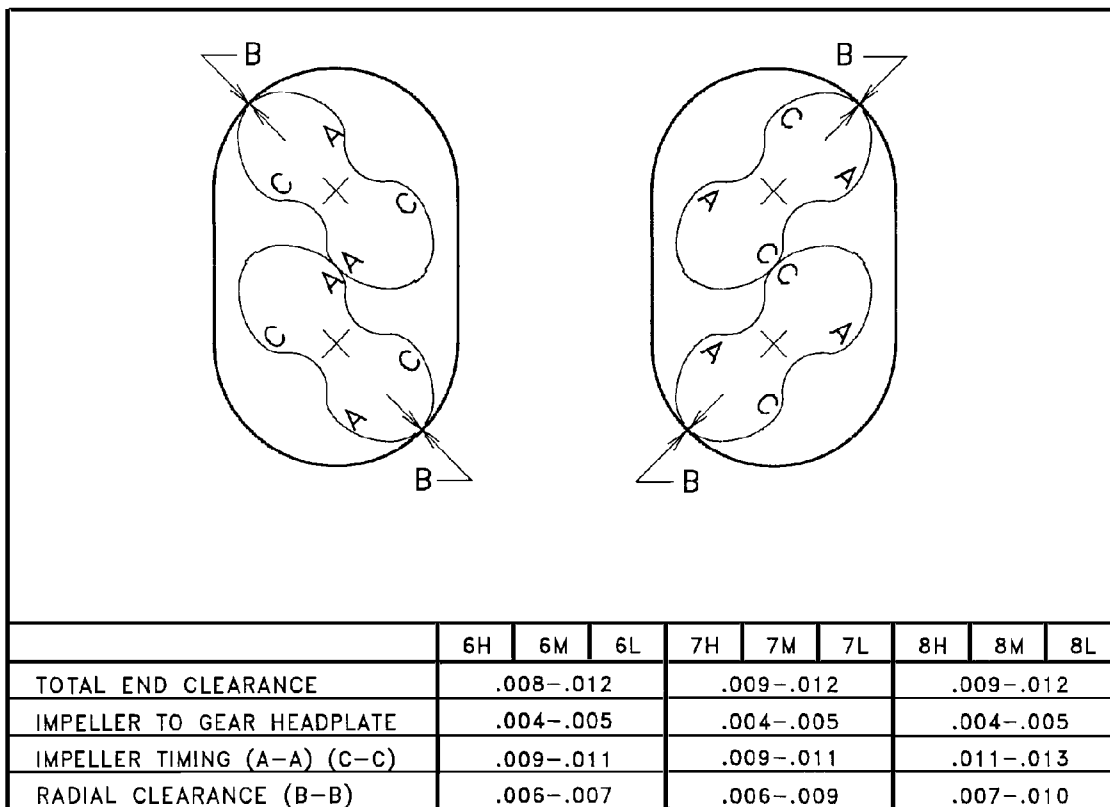

FIGURE 21
If total clearance is not within the limits specified in FIGURE 21, page 20, it may be necessary to shim the case to obtain the proper total end clearance. The shim should be placed between the drive headplate and impeller case.
12. Push the impellers against the gear headplate and recheck the total end clearance between the drive headplate and the impellers (see FIGURE 21, page 20).
- A. If total end clearance is insufficient, loosen impeller case to headplate bolts on either headplate, and move the headplate away from the case far enough to insert a paper shim in the amount equal to the insufficient clearance. Retighten case bolts and again check the total end clearance. Refer to FIGURE 21, page 20, for correct clearance.
13. Impeller tip to case clearance should be checked at this time by inserting the correct thickness feeler gauge between the tip and the case (B) and rotating the impeller (see FIGURE 21, page 20). Repeat the procedure on both impellers.
- D. Recheck end clearances. Approximately  $1/3$  of the total end clearance should be on the gear end and the remaining  $2/3$  on the drive end (refer to FIGURE 21, page 20).
- G. Refer to diagram in FIGURE 21, page 20. Use feeler gauges to check clearances between impeller lobes at positions A-A and C-C. Add the clearances, and divide the total clearance evenly between A-A and C-C.
- H. Loosen the four capscrews (38) in one gear only. Wedge the correct amount of feeler gauge between the impeller at A-A. If movement between the gear and hub is not sufficient to time the impellers, it will be necessary to loosen the four capscrews (38) in the mating gear to obtain a large adjustment range. Adjust so that the clearance at A-A is equal to C-C within .001 inch.